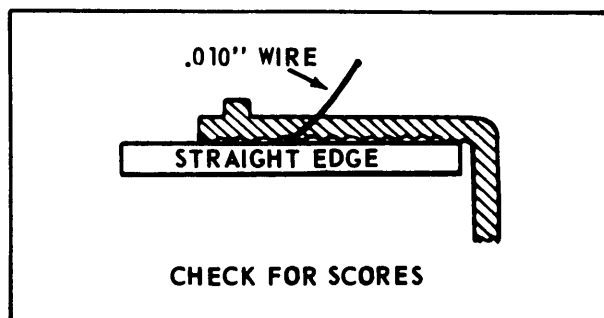

FIGURE 8-3. CHECKING FOR SCORED DRUM.
- a. Scored or barrel-shaped drum - Drum will need turning down if a .010 in. (.254 mm) wire will pass between the drum and a straightedge placed on the brake drum surface (see figure 8-3).